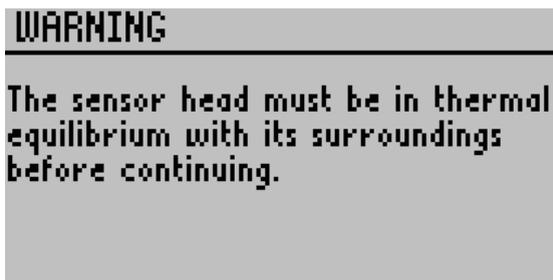

Figure 46 Warning screen to wait for thermal equilibrium
- A warning screen will appear (Figure 46).